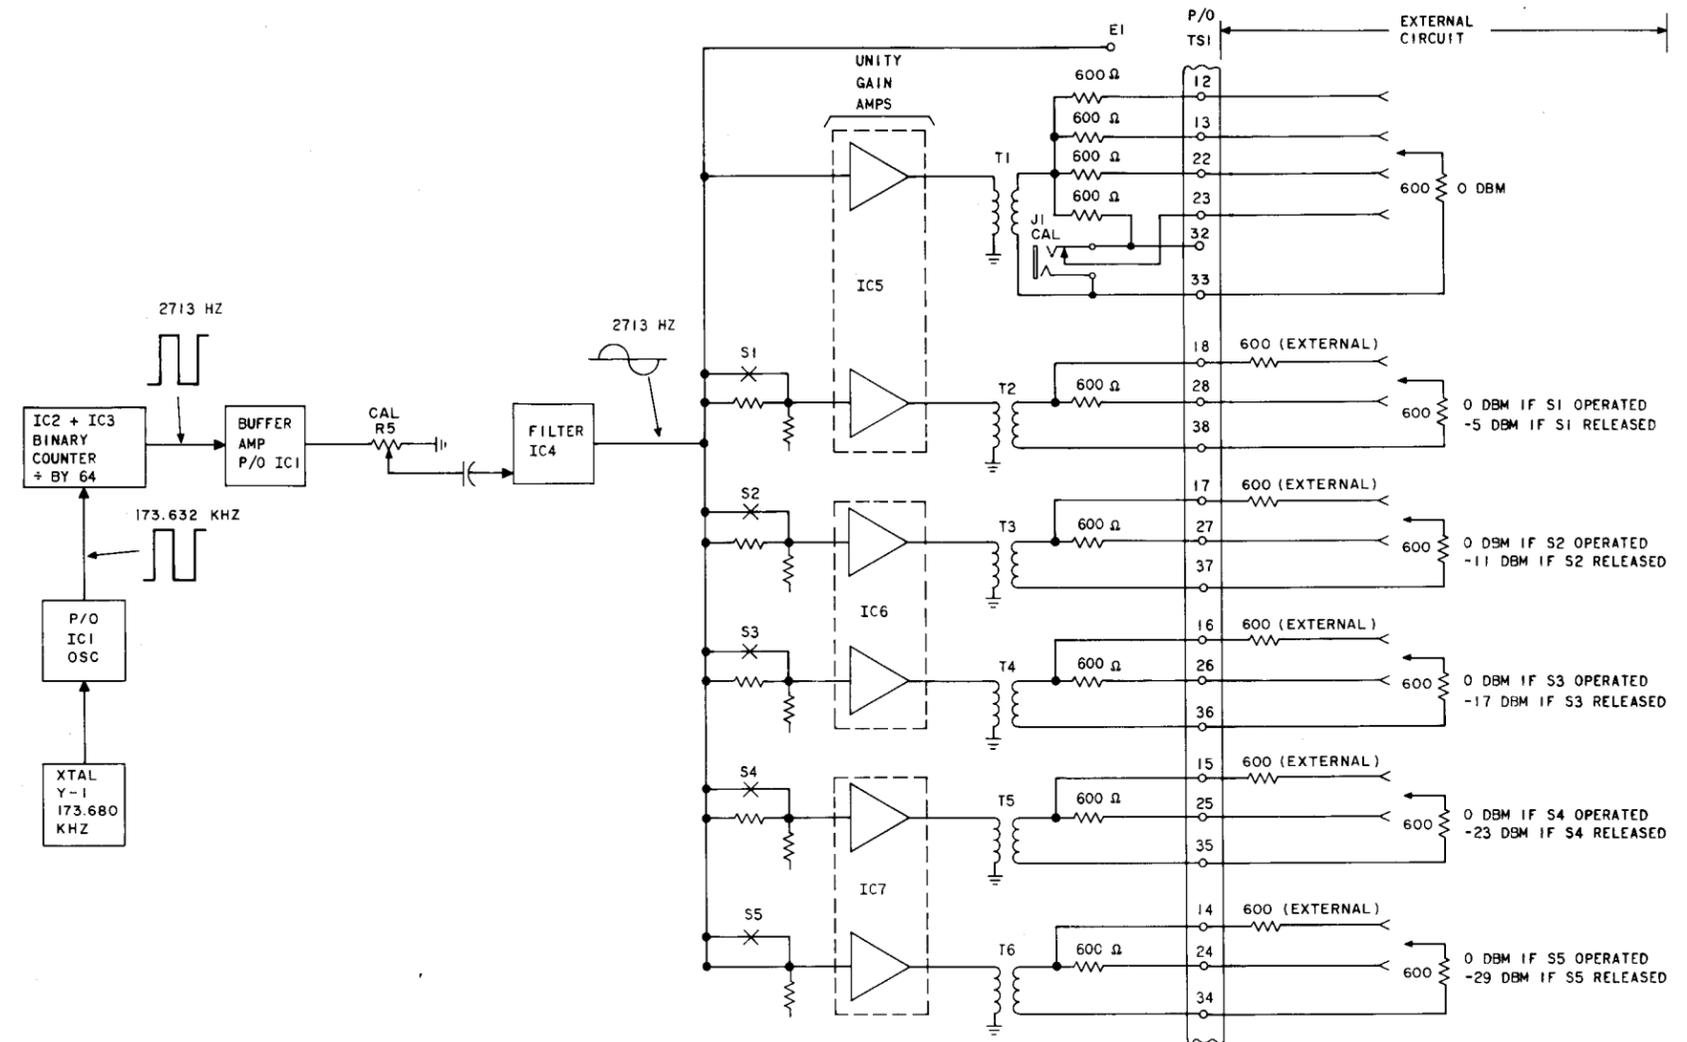

Fig. 2—Functional Diagram of 406A Tone Generator
3.01 The functional block diagram of the 406A tone generator is shown in Fig. 2 and consists of the following basic components:
switches S1 through S5 should all be operated. This provides six isolated 600-ohm outputs at 0 dBm as shown in Fig. 2 and in Table A. These outputs are available at the following terminal pairs of TS1: 28—38, 27—37, 26—36, 25—35, 24—34, and 12—33. There are three additional 600-ohm nonisolated outputs available at the following terminal pairs of TS1: 13—33, 22—33, and 23—33. The output port at TS1 23 should be the last one used because of the possibility that the output signal may be removed by inserting a plug in the CAL jack. The 2713-Hz tone jacks should be distributed among these outputs in order to minimize the loading on each output.
5.04 If 600-ohm attenuators are not available at the testboard, some or all of the following levels will be needed: -5 , -11 , -17 , -23 , and -29 dBm. These levels are set by releasing screw switches S1, S2, S3, S4, and S5, respectively. The outputs are shown in Fig. 2. The maximum and minimum TLPs anticipated for test appearances on PL channels are $+13$ TLP and -16 TLP. The highest test level permitted is -13 dBm0. The lowest test level that will provide an adequate level at the station, for the 44A1 data unit and the new detector to be used in DAS 829-type, is -18 dBm0. Therefore, each 406A tone generator output level can be used to cover a 5-dB range of TLPs. This will result in a 5-dB range of test levels between -13 dBm0 and -18 dBm0. Table B shows the tone generator output level to be used for each test appearance level between $+13$ TLP and -16 TLP, as well as the resulting test levels. If any of the -5 through -29 dBm output levels are not needed, the corresponding outputs may be set to 0 dBm by operation of the proper screw switches. This will provide additional 0-dBm outputs for other applications as required. A 2713-Hz tone jack at a particular output level is required at or near each test position that has test appearances in the TLP range covered by that output level. For example, a test position has test appearances at $+13$, $+9$, $+7$, and -16 TLPs. It can be determined from Table B that testboards without available attenuators will require having three 2713-Hz tone jacks at or near this test position. The three jacks are connected to the -5 , -11 , and -29 dBm outputs of the tone generator with S1, S2, and S5 released. There are generally several test appearances on each channel at a given test position. Only those test appearances at which it is desirable to insert the 2713-Hz tone need to be considered to determine the 406A tone generator